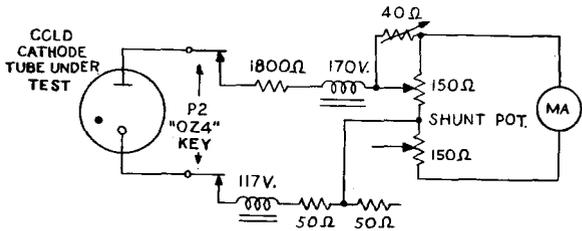

Fig. 5 - Cold Cathode Tube Test Circuit
2.24 When testing a cold cathode tube, the circuit (Fig. 5) is similar to that described in Paragraph 2.23 except that two windings of the power transformers are employed in series, applying an ac potential of 290 volts in series with a current limiting resistor to the tube under test.